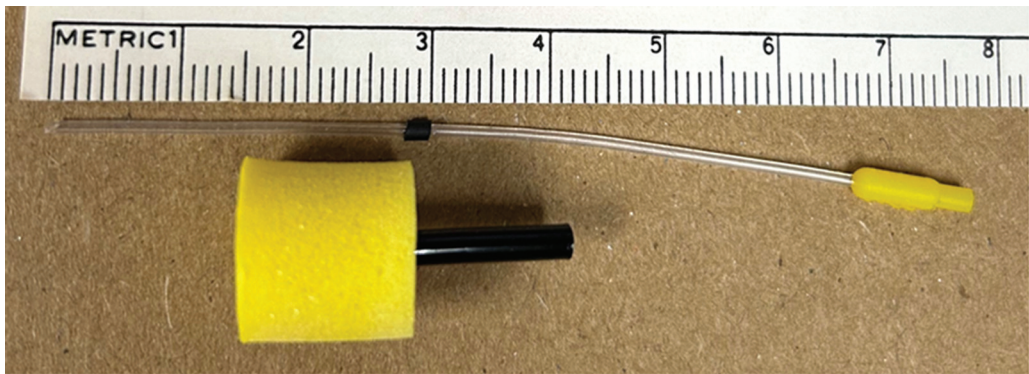
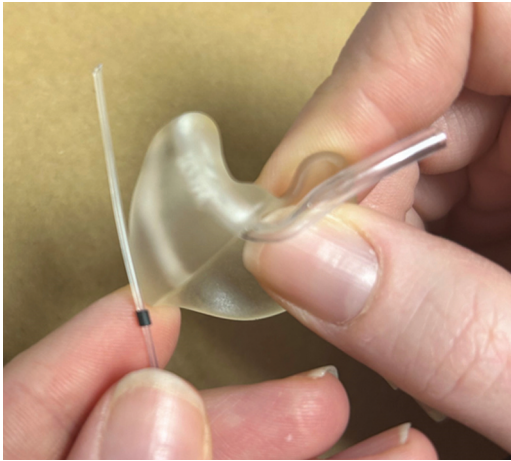

Figure 1 Identifying how far to place the probe microphone in the ear canal.
Figure 11 Probe tube preparation with an earmold.
- a. Place the probe tube alongside the insert earphone (Figure 1). You want to slide the black marker on the probe tube to align it with the outside edge of the insert earphone, ensuring that the end of the probe microphone tube extends beyond the end of the foam insert.
11. If an earmold is being used with the hearing aid, you can adjust the black marker on the probe tube so that the length from the black marker to the opening of the tube is a little more than the ear mold canal length (see Figure 11). With adults, you also can use your judgment to determine how deep you insert the tube to become close to the eardrum (see the tips provided in Figures 1,2,3).